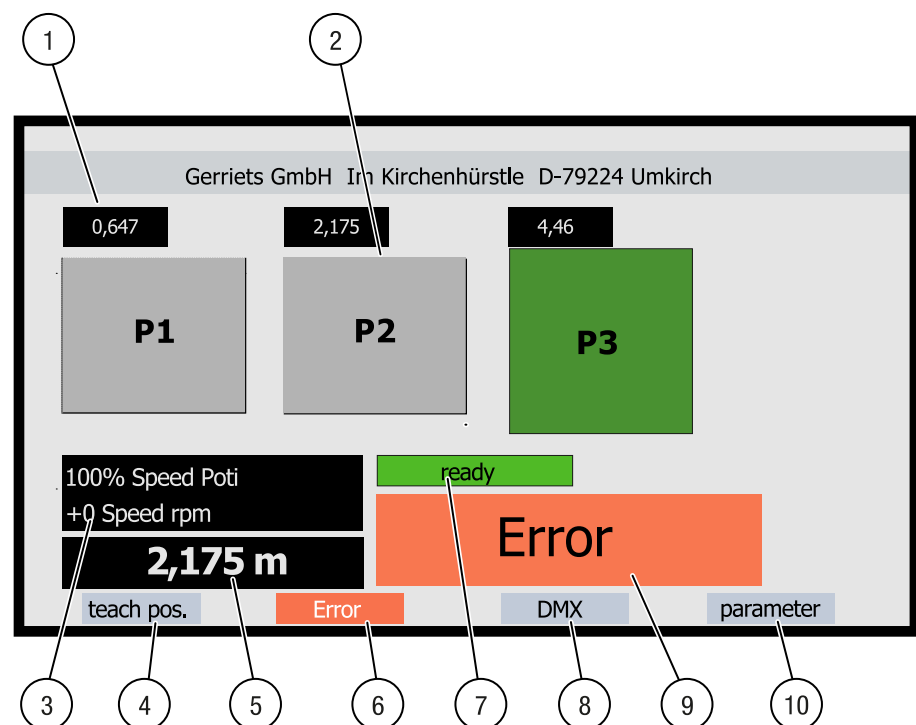
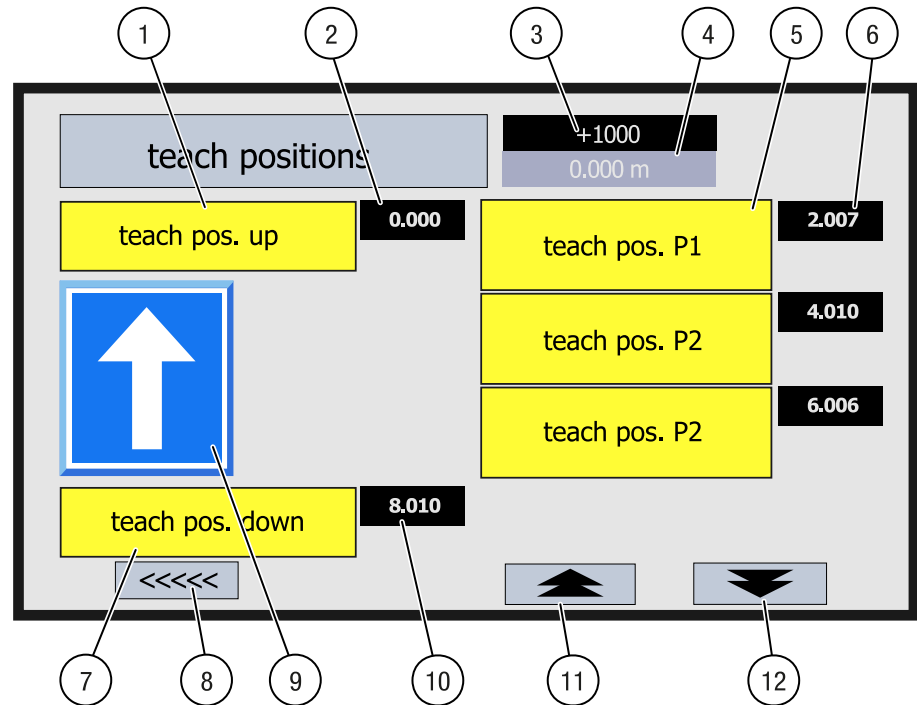

Fig. 9: Control panel – Main menu
Fig. 10: Control panel – Teach positions
In the upper section of the main menu, the saved positions P1, P2 and P3 are displayed as selectable buttons (2/ Fig. 9). The corresponding position values appear above the buttons (1/ Fig. 9).
- Target speed and RPM (set via the potentiometer (3/ Fig. 9))
- Current position (5/ Fig. 9)
- Operating status of the roller screen (7/ Fig. 9)
- Error indicators (9/ Fig. 9)
- “Teach Pos” (4/ Fig. 9): Opens the menu for setting and saving the operational and intermediate positions of the roller screen.
- “Error” (6/ Fig. 9): Displays active error messages and allows them to be acknowledged.
- “DMX” (8/ Fig. 9): Configures the DMX settings for external operation.
- “Parameters” (10/ Fig. 9): Opens a three-page settings menu for technical operating parameters such as speed, direction of rotation and language.
The “Error” key (6/ Fig. 9) and the associated error display (9/ Fig. 9) are only visible when an error is active. They do not appear at the same time as the “ready” display.
The “Teach Pos” submenu is opened using the F1-key (4/Fig. 9 , see Fig. 10).
- Operating limit (top) (1/Fig. 10)
- Operating limit (bottom) (7/Fig. 10)
- Intermediate positions “P1” to “P3” (5/Fig. 10)
The positions are reached using the “Up” (11/Fig. 10) and “Down” (12/Fig. 10) buttons and saved by pressing and holding the respective memory button. A direction arrow (9/Fig. 10) on the display indicates the system’s current direction of travel.
The display for the upper operating end position (2/Fig. 10) shows the saved value. A value of 0.0 is used as the reference point for all other positions.
- Encoder value (3/Fig. 10) with a value ≥ 1000
- Current position (4/Fig. 10)
- Stored value for intermediate positions (6/Fig. 10)
- Stored value for lower end-of-travel position (10/Fig. 10)
The “Back” button (8/Fig. 10) returns you to the main menu. All configured settings are saved automatically.
When you open the parameter menu using the F4-key (11/Fig. 9), a login window appears first, in which a password must be entered. Once you have successfully logged in, settings can be made on three pages.